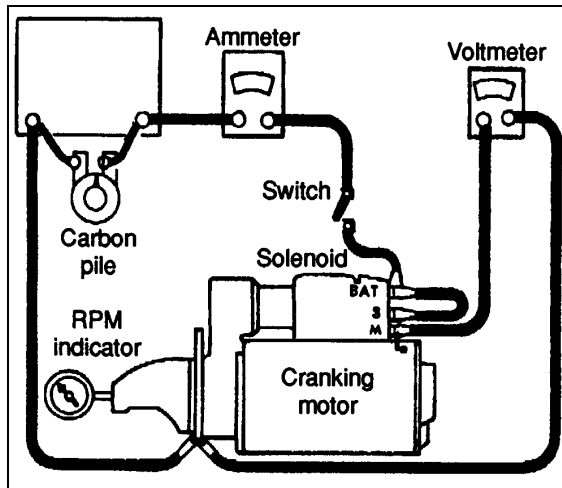

FIGURE 49: STARTING MOTOR NO-LOAD TEST 06084
Before disassembly of the starting motor, the following check of starting motor operation should be done to determine any condition that may require special attention during overhaul. Make test connections to the starting motor as in figure 49.
Connect the starting motor in series with fully charged batteries to give 24 volts, an ammeter capable of reading several hundred amperes and a variable resistance. Also connect a voltmeter as illustrated in figure 49 from the solenoid motor (M) terminal to the starter frame. A rpm indicator is necessary to measure armature speed. Proper voltage can be obtained by varying the resistance unit.